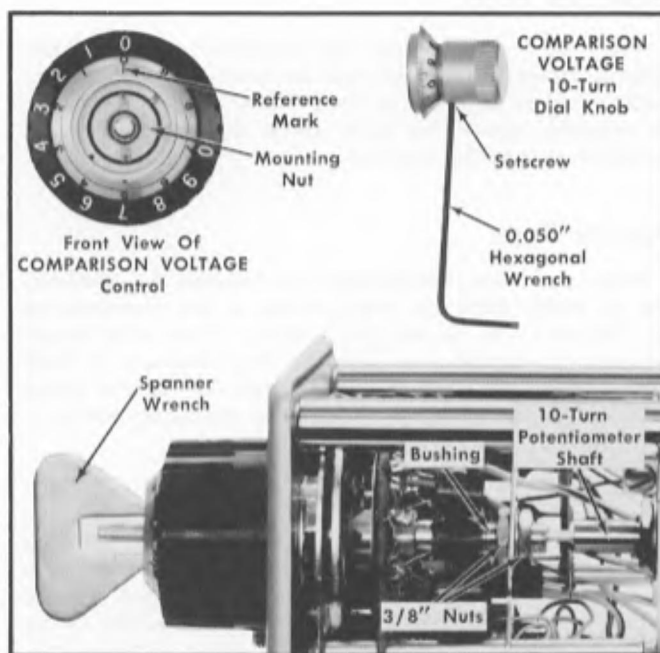

Fig. 4-1. Aligning the COMPARISON VOLTAGE 10-turn dial assembly so the reference mark is perpendicular.
1. Using a 0.050-inch hexagonal wrench, remove the COMPARISON VOLTAGE 10-turn dial knob (see Fig. 4-1).